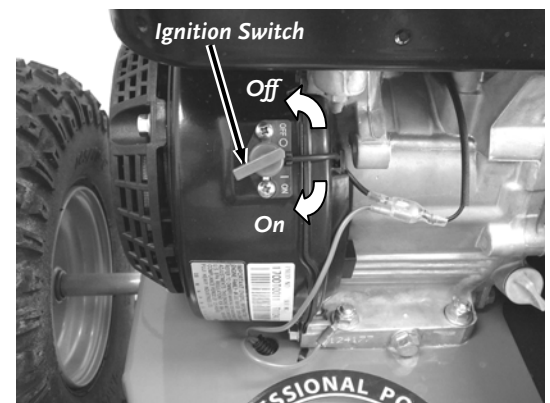
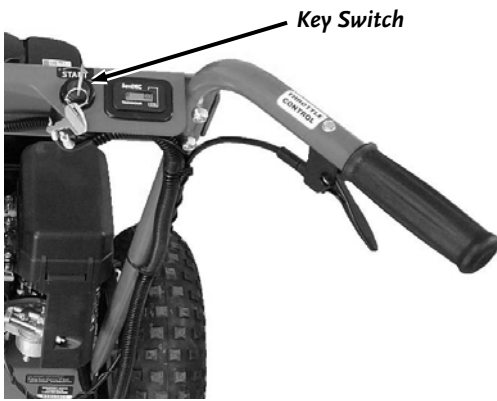

Figure 10
Figure 12
2. Turn the Ignition Switch to the “ON” position (**Figure 10**) (6HP only).
3. Hold down the Operator Presence Lever and turn the Key Switch fully to the “Start” position until the engine starts (**Figure 12**). The Key will move back a bit from the full Start position when released.
3. Turn the Ignition Switch to the “Off” position (**Figure 10** for 6HP Manual Start) and to the left (**Figure 12** for 9HP Electric Start).